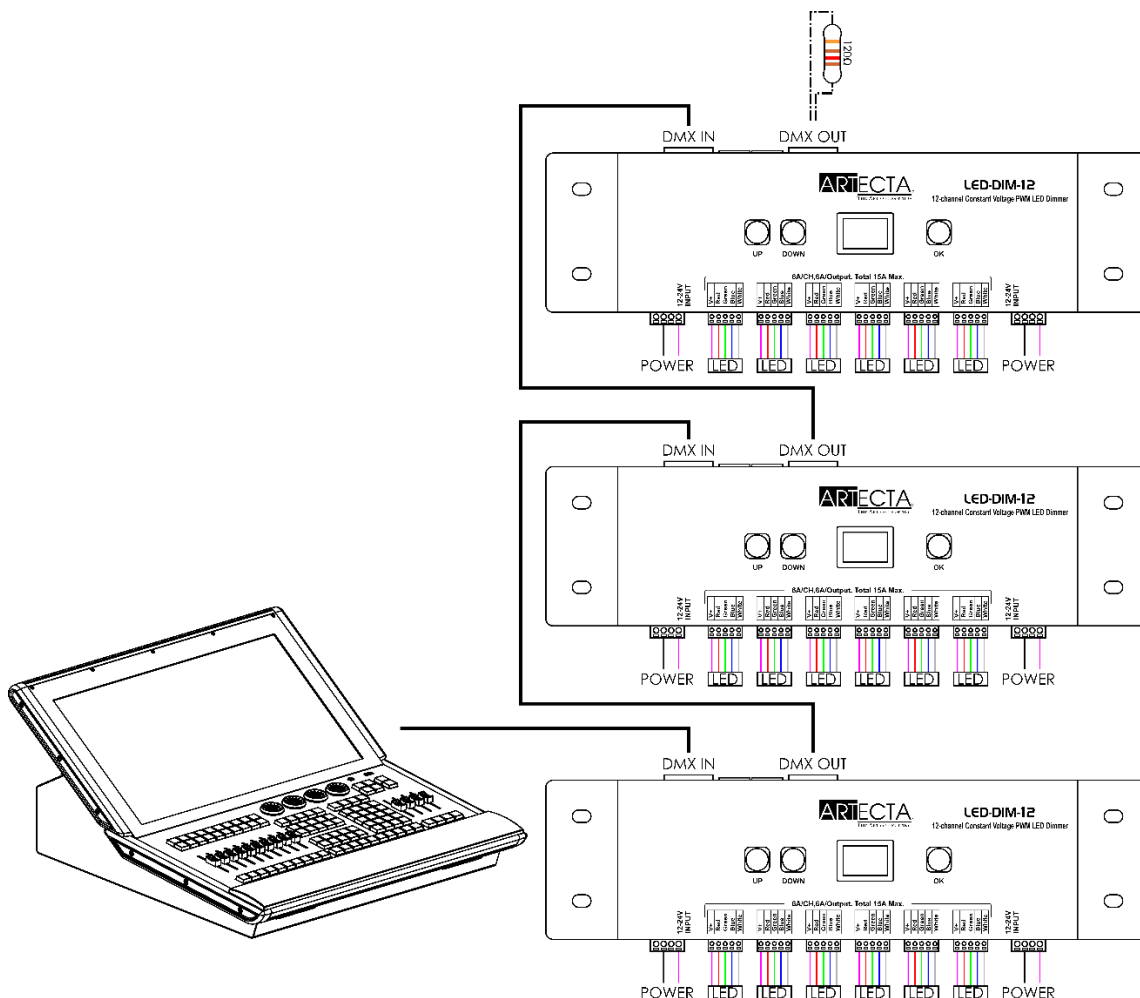

Fig. 03
- 03) Link the devices as shown in (Fig. 03). Connect a DMX signal cable from the first device's DMX/RJ45 "out" socket to the second device's "in" socket. Repeat this process to link the second, third, and fourth devices.